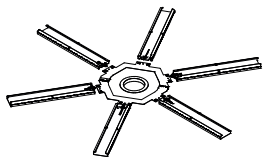

Fig. 3
- 3- Take each of the 6 blades and insert them into the male part of the central ring (Fig. 3) and make sure that each blade is properly inserted into the central ring (normally a click is heard).